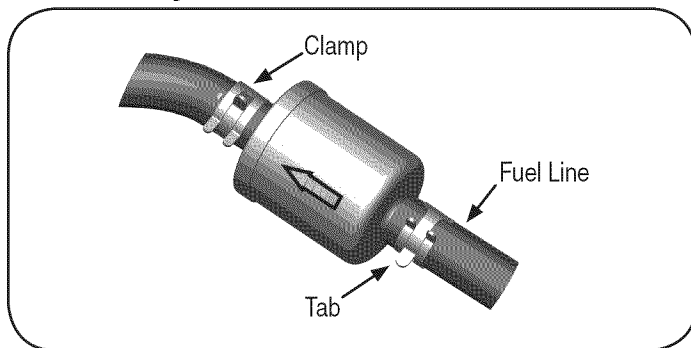

Figure 23
2. Use pliers to squeeze tabs on the clamps, then slide the clamps away from the fuel filter. Twist and pull the fuel lines off of the fuel filter. See Figure 23.